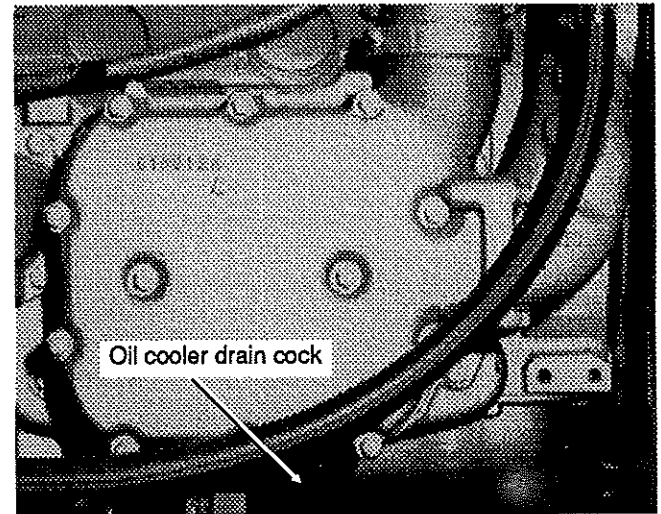

Fig. 7
5. Open engine oil cooler drain cock (see fig. 7).